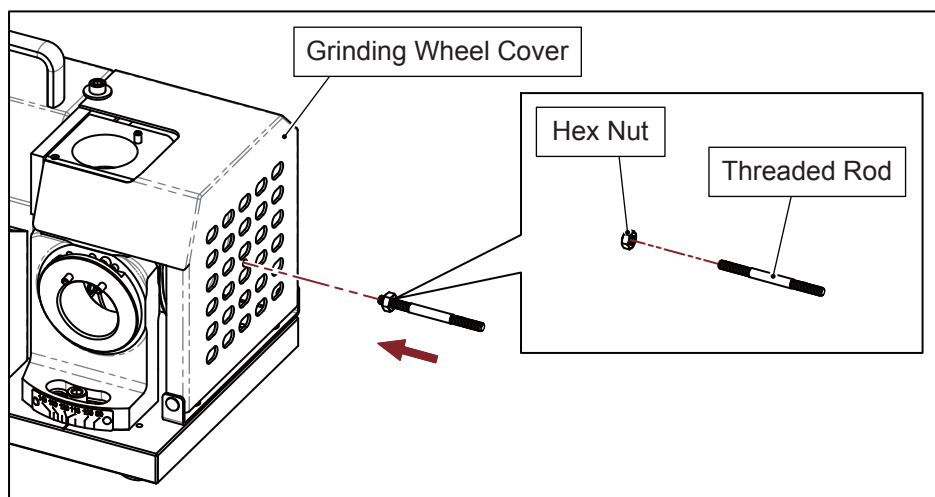

Fig. 4-1
1. Thread the hex nut onto the suitable position of the threaded rod, align the end of the threaded rod containing the hex nut to the tapped hole of grinding wheel cover, and turn the threaded rod clockwise to thread the rod into the grinding wheel cover and tighten lightly. (Fig. 4-1)